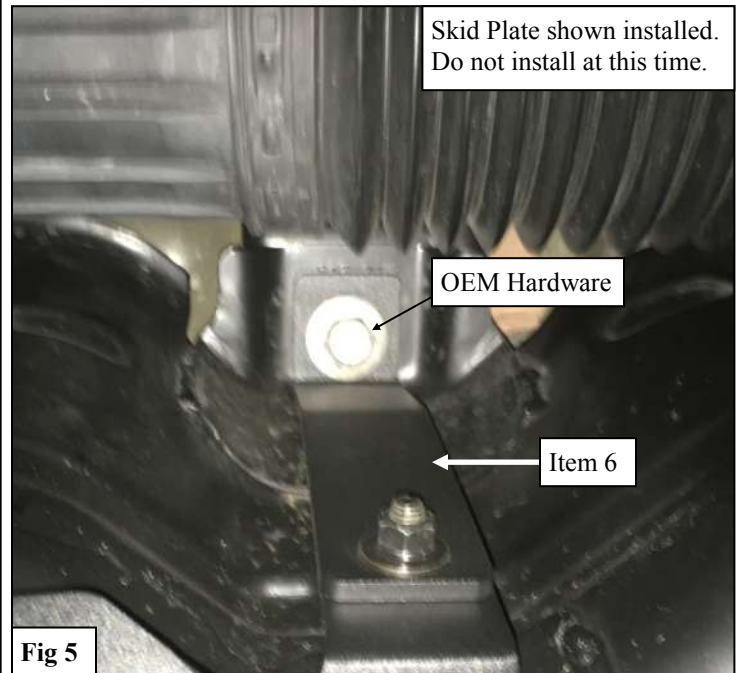

Fig 5
7. Loosely install Bracket E (6) to the driver side middle area of the gas tank using the OEM Hardware. See **Figure 5**.